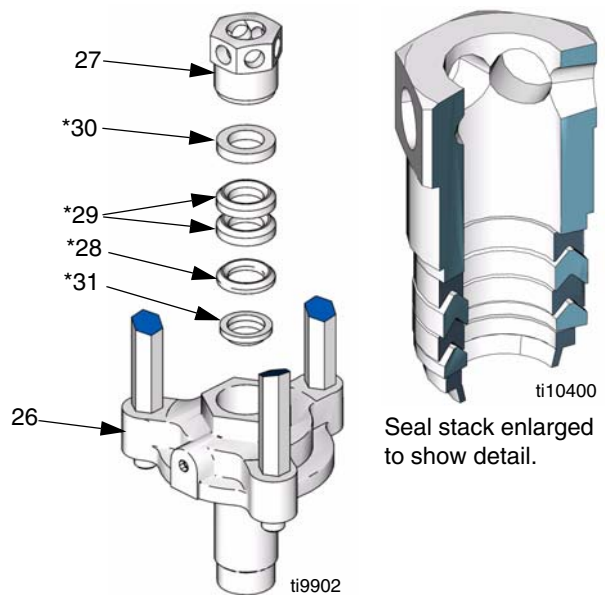

FIG. 23
12. Remove hex nut (27) from mounting flange (26). Remove female gland (30\*), 2 PTFE packings (29\*), male gland (28\*) and wiper (31\*). Inspect all parts for damage. See FIG. 23.